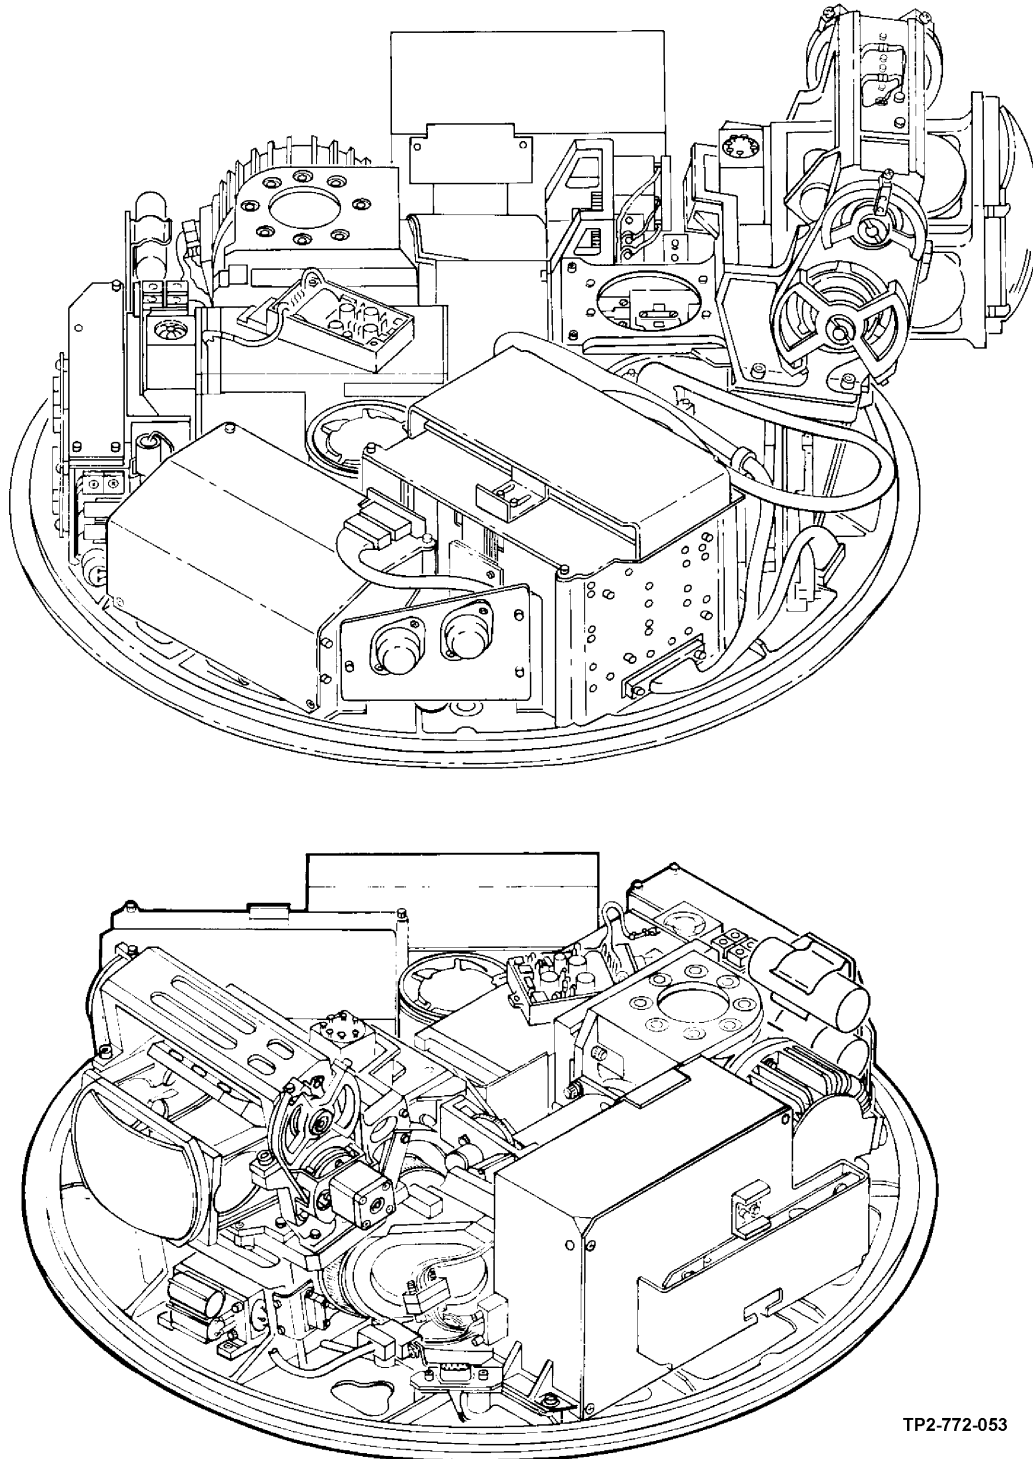

Figure 3-1. PNVS Night Sensor Assembly
The PNVS NSA (figure 3-1) is a forward looking infrared (IR) target imaging and designating assembly that converts IR image scenes into video to be used for target designating and tracking. It contains no operating controls or indicators. All components of the TADS NSA that are referenced during the UUT test are shown in the illustrations in section IV.